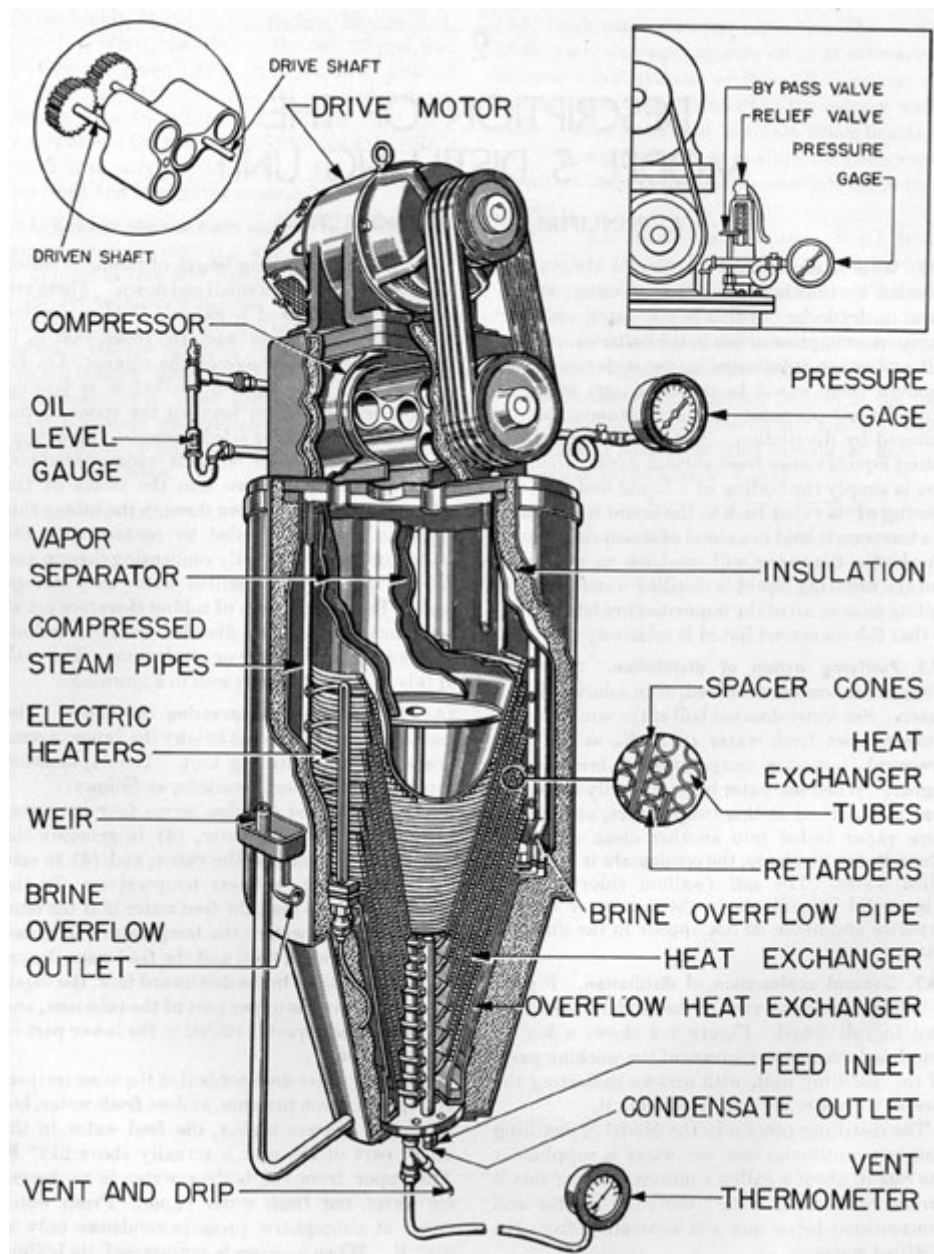
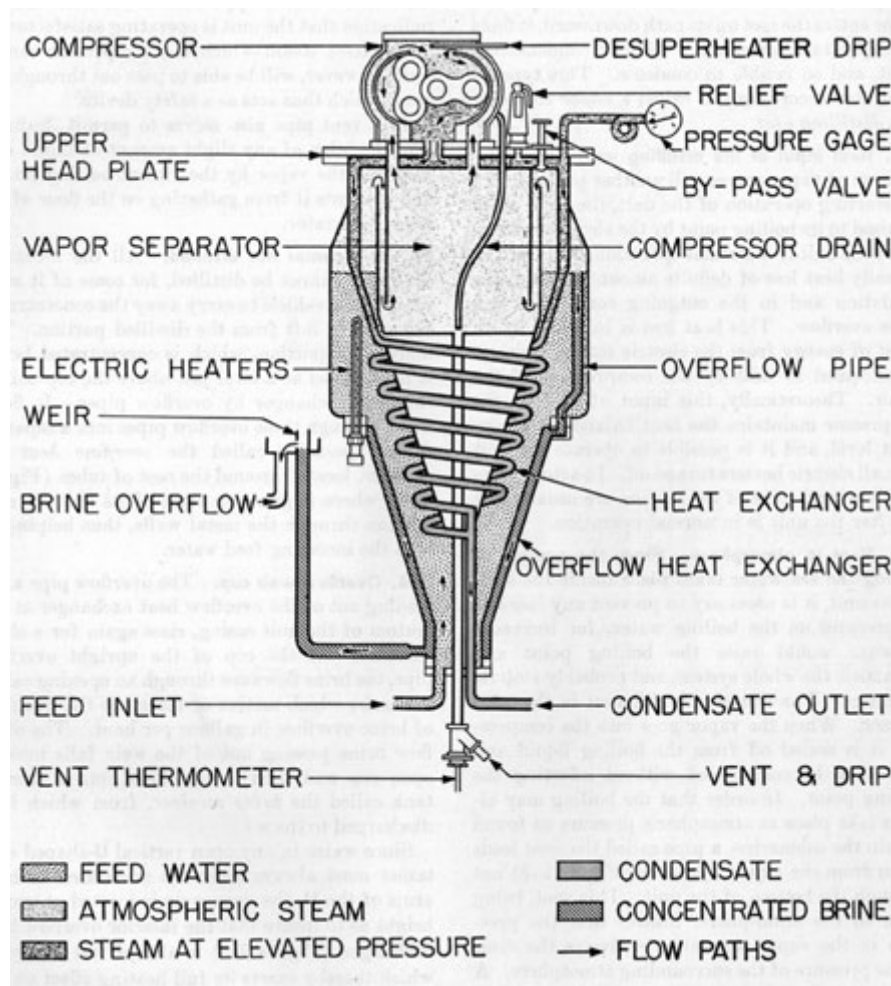

Figure 2-1. Model S distilling unit (cutaway view).
Figure 2-2. Model S distilling unit (schematic view).
Inside a casing, a long length of tubing is coiled into a cone, set with its small end down. There are ten such cones nested together. Cold sea water enters at the bottom between the cones, that is, it flows around the outside of the tubing. On its way upward it is heated, so that it is boiling when it emerges from between the cones at the upper end. The vapor is led through a vapor separator into a compressor, where it is compressed and is then discharged down into the inside of the tubing. On the way down through the tubing this vapor is gradually cooled by contact with the colder tubing walls, finally condensing therein and flowing out as pure distilled water to a storage tank. The nested cones of tubing therefore act as heat exchangers. The distilled water is technically known as distillate or condensate. The path of this flow may be easily seen in Figure 2-2.
**2A3. General explanation of distillation.** Figure 2-1 shows a cutaway view of the Model S distilling unit in full detail. Figure 2-2 shows a highly simplified schematic diagram of the working parts of the distilling unit, with arrows indicating the flow of the water and vapor through it.
**2A6. Vent to atmosphere.** Since the process of boiling the sea water takes place inside the shell of the unit, it is necessary to prevent any increase of pressure on the boiling water, for increased pressure would raise the boiling point and unbalance the whole system, and probably stop its operation. The situation is different in the compressor. When the vapor goes into the compressor, it is sealed off from the boiling liquid and may then be compressed without affecting the boiling point. In order that the boiling may always take place at atmospheric pressure as found within the submarine, a pipe called the vent leads down from the vapor separator (Figure 2-2) out through the bottom of the unit. This vent, being open to the atmosphere, insures that the pressure in the vapor separator is always the same as the pressure of the surrounding atmosphere. A distant reading dial thermometer is connected to the vent by a flexible tubing and gives the temperature in the vent pipe.
remain as a vehicle to carry away the concentrated salt content left from the distilled portion. The undistilled portion, which is concentrated brine, is maintained at a level just above the top coil of the heat exchanger by overflow pipes. It flows down through these overflow pipes into a separate conical passage, called the overflow heat exchanger, located around the nest of tubes (Figure 2-2), where it gives up some of its heat by conduction through the metal walls, thus helping to heat the incoming feed water.
Since water in any open vertical **U**-shaped container must always be at the same level in both arms of the **U**, the open weir is located at such a height as to insure that the interior overflow heat exchanger (Figure 2-2) is always full of liquid, which thereby exerts its full heating effect on the sea water inside.
**3A5. Retarders.** A 1/8-inch square metal rod is inserted into the lower two-thirds portion of each tube. These rods are called retarders, and serve to decrease the inner area of the tubes through this section so that most of the condensate comes in contact with the walls of the tubes, thereby obtaining maximum heat transfer. The retarders also limit the flow of steam through the tubes, thus maintaining proper compressor discharge pressure (see Figure 2-1).
bolted to the upper head plate, which is the main support of the whole unit. The lower part of the shell consists of two nested conical sections 1/16-inch apart, bolted at the bottom to the lower head plate. The space between these two lower conical sections forms the overflow heat exchanger (Figure 2-2).
cone spacers made of copper nickel, .020 inch thick. These metal spacers are inserted to form a seal between the cones of tubing. Three are used to provide sufficient flexibility to form a contour to fit the tube cones tightly. If only one spacer were used it would have to be of such thickness that it would require machining to make a tight seal. These spacer cones, acting as seals, insure that the feed water travels around the small passages that exist between the tubes and the spacer cones (Figure 2-1). Having the cone shaped coils wound both left and right and installed alternately prevents their interlocking when forced tightly together. Inside the inner cone of tubes there is another sheet metal cone, the inside of which is sealed off and has no working
**3A8. Electric heaters.** The heat exchanger projects part way up into the upper cylindrical portion of the shell. Here, between the cones of tubes and the shell, is a narrow space into which the water, now at the boiling point, enters (Figure 2-2). The eight electric heaters, spaced equally around the shell, extend into this space. The water level is maintained above the tops of these heaters.
**3A12. Water level.** The water level in the unit is maintained at about 1/2 inch above the topmost coil of the heat exchanger by means of two overflow pipes, diametrically opposite each other. Figure 2-2, being a schematic view, shows only one of the overflow pipes.